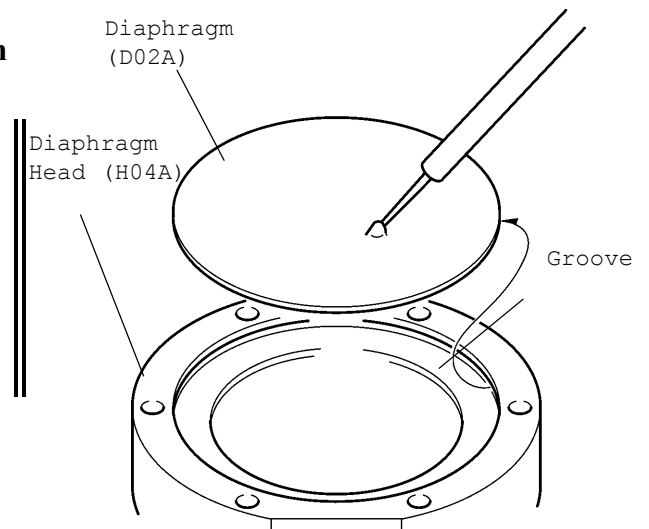

Fig. 7-10 Removal of single diaphragm
- (1) Properly install the diaphragm into the recess of the diaphragm head. Refer to Fig. 7-10.